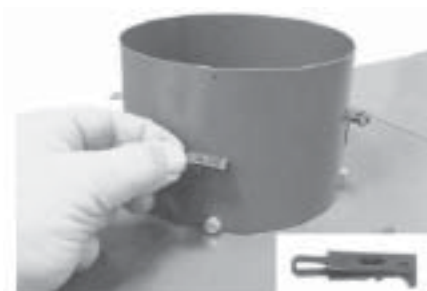

Fig. 3
5. Slide tinnerman clips over the small bracket as shown in **Fig. 3**.